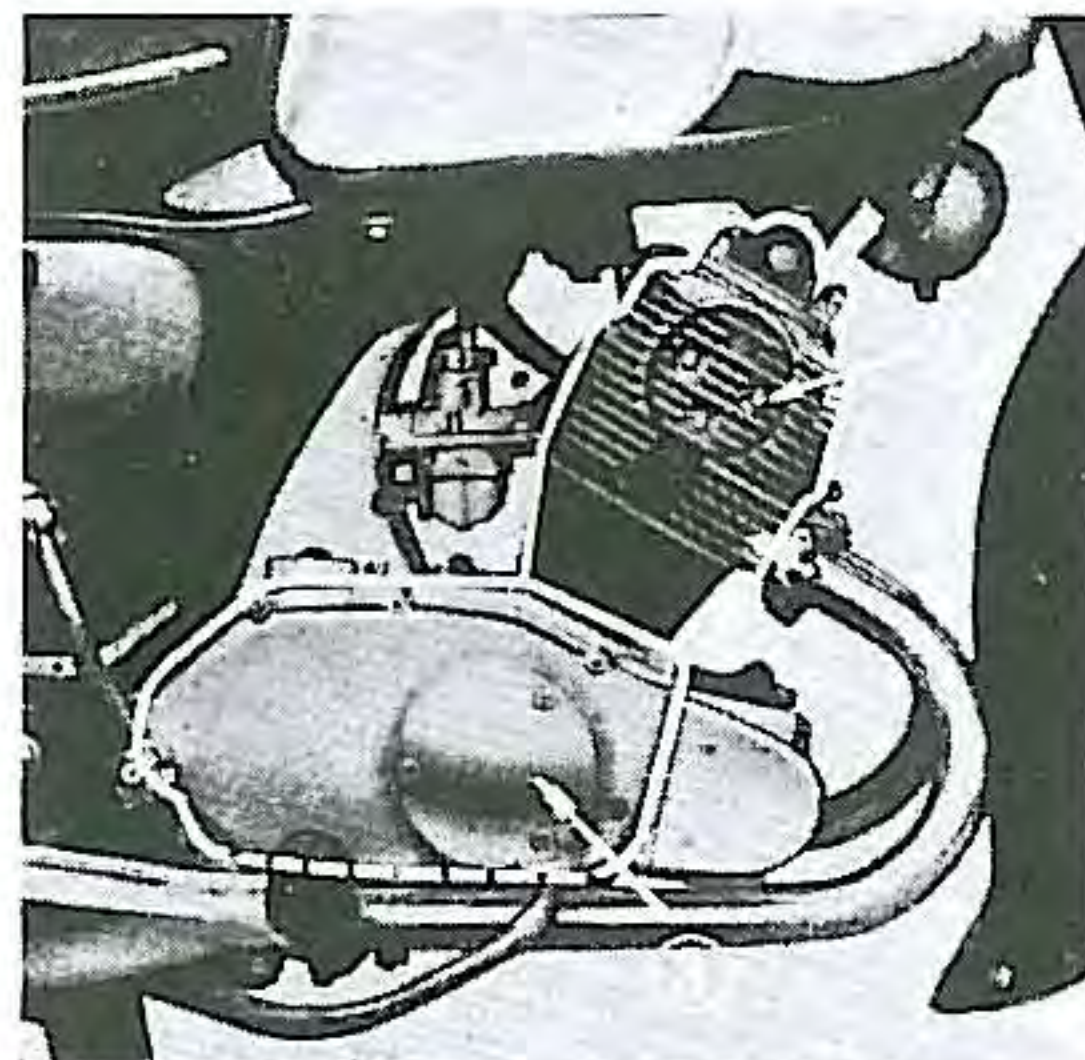

Fig. 4. Portions connected with servicing
- (3) To service clutch, remove right crank case cover and disassemble clutch. (Fig. 4)